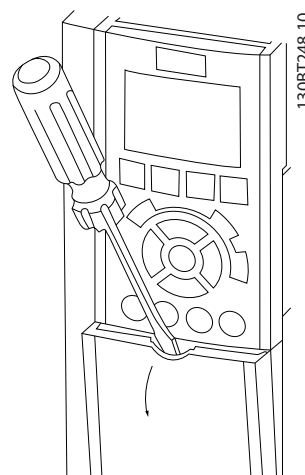

Figure 2.12 Control Wiring Access for A2, A3, B3, B4, C3 and C4 Enclosures
- Remove access cover plate with a screw driver. See *Figure 2.12*.